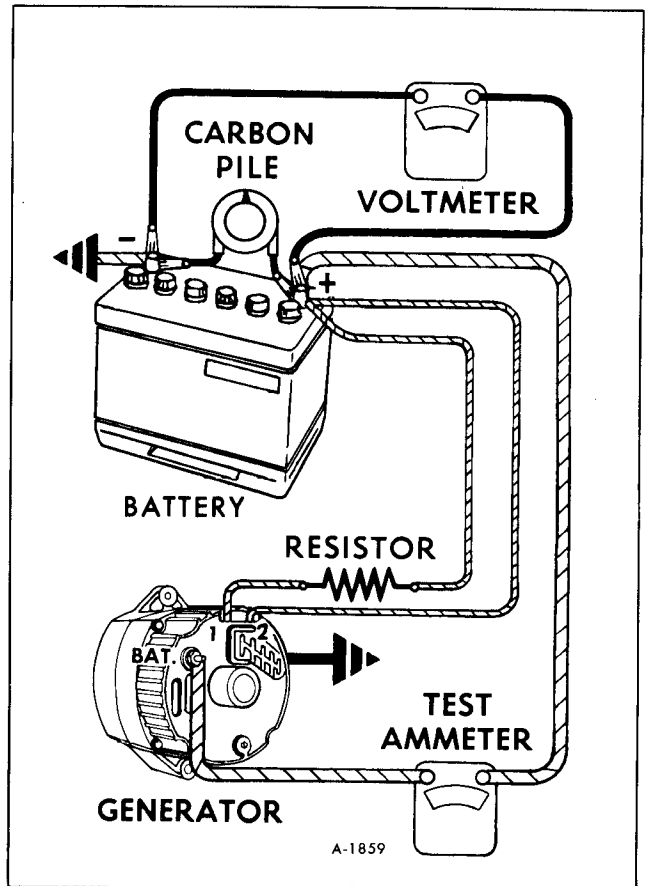

Figure 20-Connections for Testing Generator Output
1. Make connections as shown in Figure 20 except leave the carbon pile disconnected. Use a fully charged battery and a 10-ohm resistor rated at 6 watts or more between the generator No. 1 terminal and the battery.
4. Connect the carbon pile as shown in Figure 20.